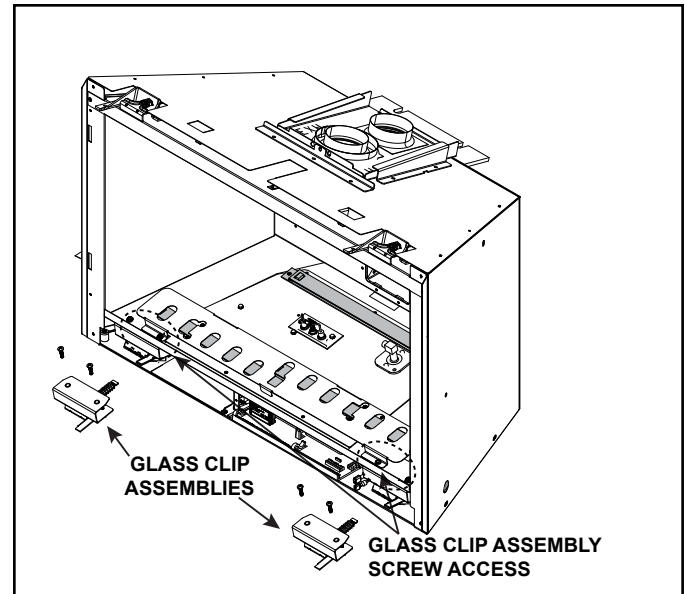

Figure 4.5 Glass Clip Assembly Removal
- For easier access, glass clip assemblies can be removed. See Figure 4.5. Be careful when handling base refractory.